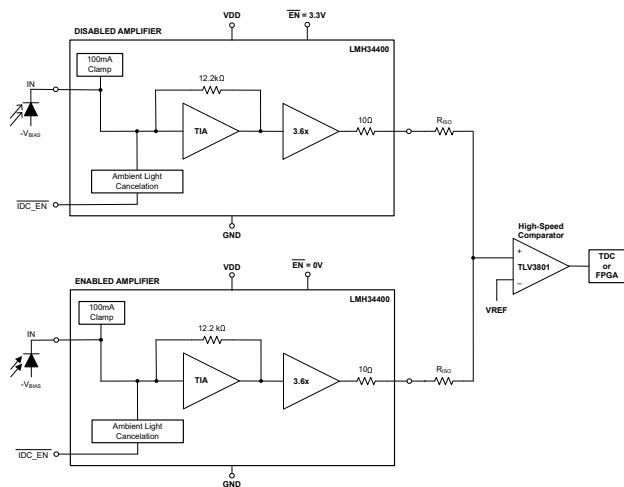

Figure 3. LMH34400 in a 2-Channel Multiplex Configuration With an Optional Comparator Into a TDC
- Power-down mode that allows the device to be used in multichannel systems without the need for an additional discrete multiplexer (Figure 3).